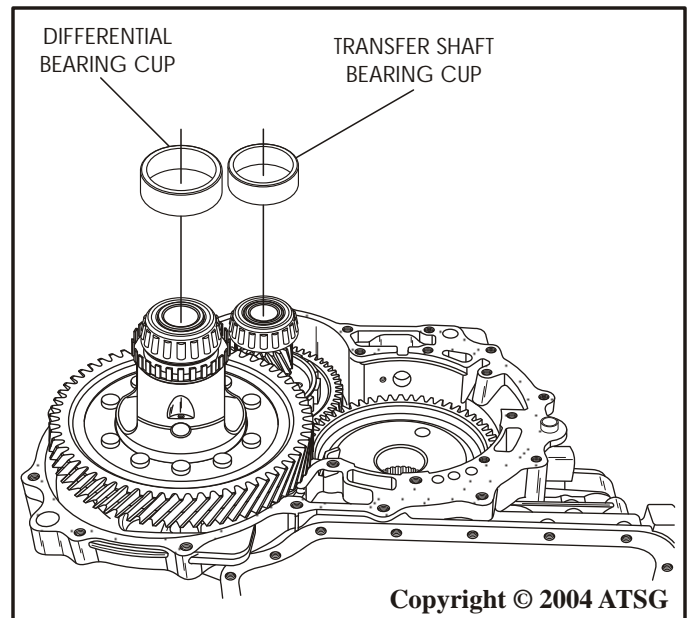

Figure 136
51. Install the new differential bearing cup onto the differential bearing cone, as shown in Figure 136.
52. Install the new transfer shaft bearing cup onto the transfer shaft bearing cone, as shown in Figure 136.